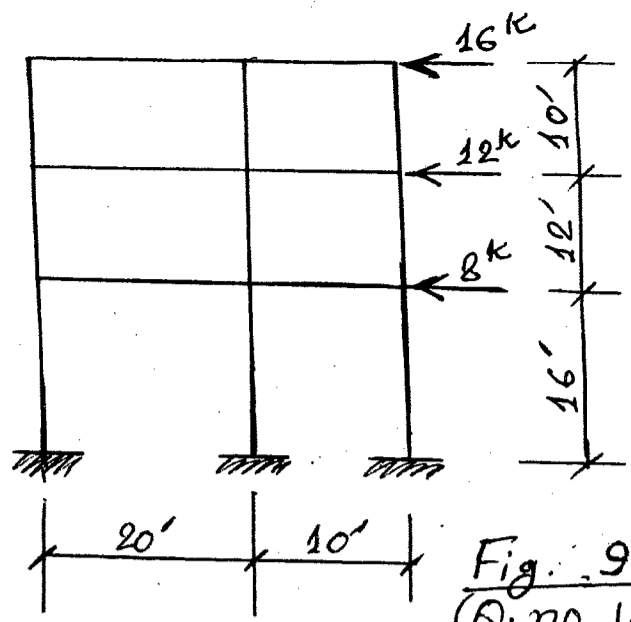

Fig. 9 (Q.no.10)
10. Using portal method draw bending moment diagram of the frame shown in Fig. 9. Also draw shear force diagrams for the girders. Bending moment diagram shall be drawn on compression side. (28)